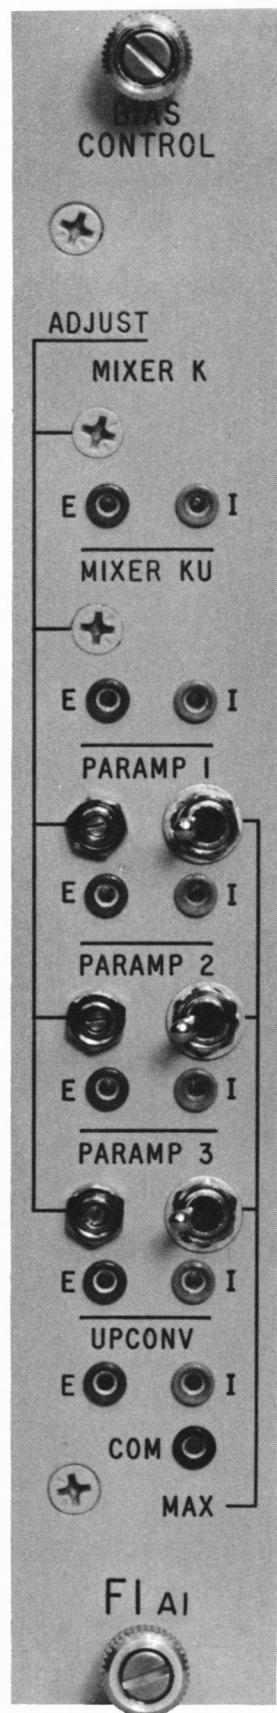

FIGURE 1– Bias Module Front Panel
*This value applies for -1.3μ A $\leq I \leq +0.7\mu$ A; for $I > 0.7\mu$ A (or $V_0 > 7$ volts) see Figure 1.